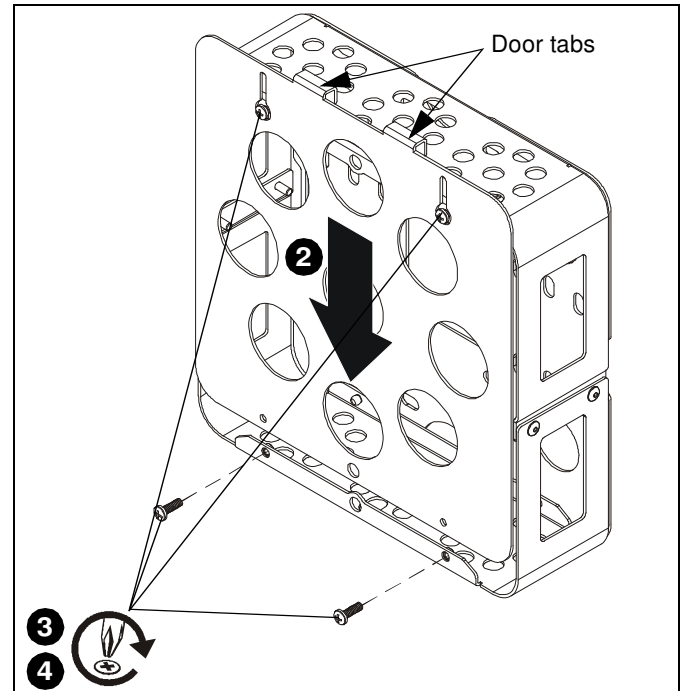

Figure 9
1. Remove back cover from back of ceiling mount. (See Figure 9)
- Replace enclosure door on front of the FCA510/FCA515 by inserting door tabs into top of enclosure and lowering top of door over loosened Phillips screws. (See Figure 9)
- Install two Phillips screws removed in Step 1 through lower part of door and into the enclosure base. (See Figure 9)